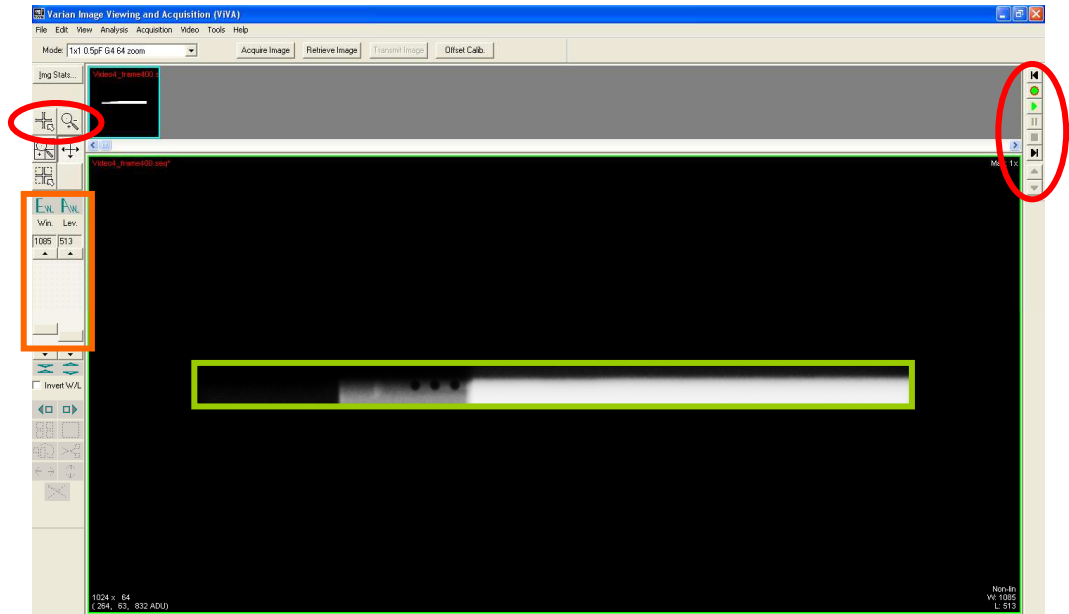

Figure 9-7
9. Review the acquisition sequence pressing the key "play" (green triangle on the right side of the monitor) and stop the image when you see the white frames. Optimize the image selecting "Awl" in the left side of the monitor (Figure 9-7) and adjust brightness and contrast with the cursors. It is also possible to select the zoom to enlarge the image in order to easier read the position. The center of the image is to 32 pixels from both sides of the window.